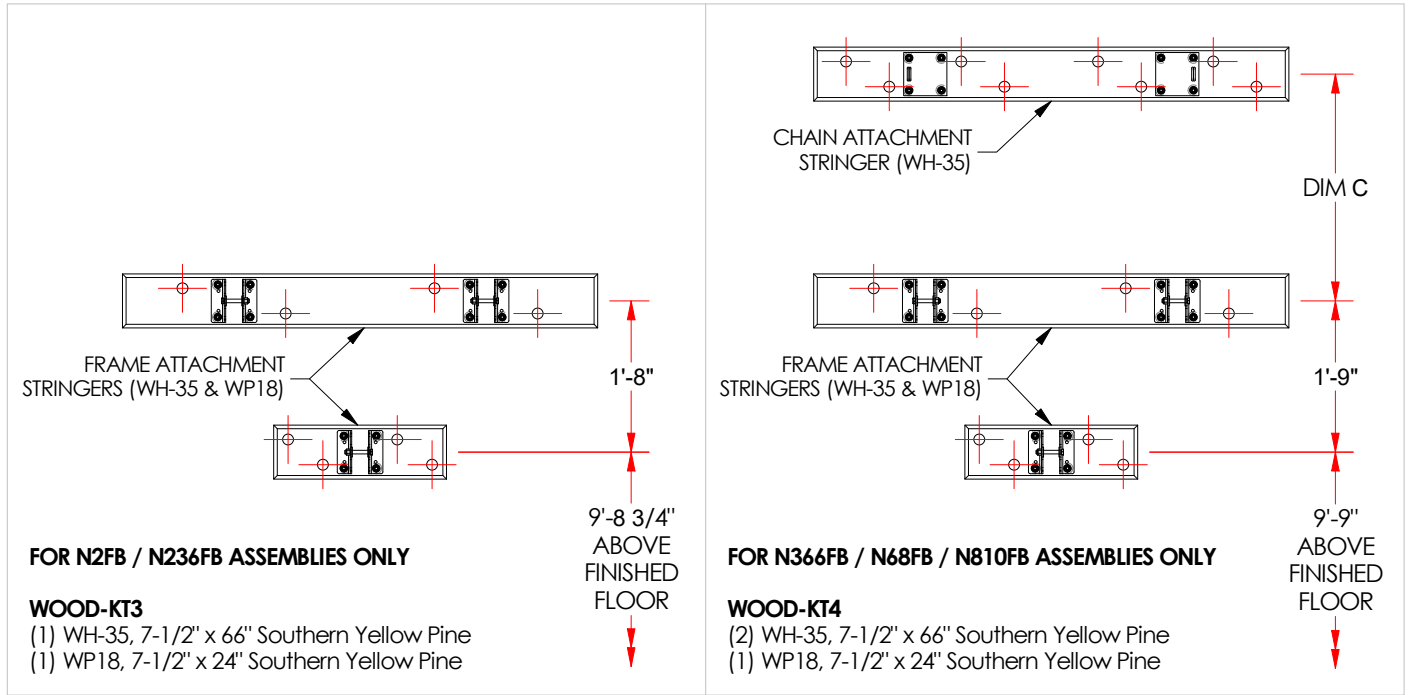

Figure 1: Wood Attachment Kits
1. Each wall mounted backstop is supplied with a wood stringer kit. Determine which kit was supplied with your backstop to determine the necessary installation requirements. Figure 1 illustrates the two stringer kits, WOOD-KT3 for N2FB and N236FB backstops and WOOD-KT4 for N366FB, N68FB, and N810FB backstops.
- Chain attachments (if equipped) are achieved using a 66" long stringer (WH-35). The chain attachments see the majority of the loading for wall mounted units. When anchoring the stringer to the wall, (8) eight anchors are required per stringer.
- The lower frame attachment is achieved using a 24" long stringer (WP18). The upper frame attachment is achieved using a 66" long stringer (WH-35). For either stringer, a minimum of (4) four anchors is required per stringer.
- Stagger the anchors from side to side to obtain optimal attachments and to protect against splitting the stringers. Exact anchor locations cannot be predetermined and is dependent on the wall structure. As a guideline, locate the holes approximately 2" inward from the closest side of the stringer. Use a repeated pattern throughout and locate the anchors close to the attachment fittings. Refer to Figure 1 as an example for anchor locations.